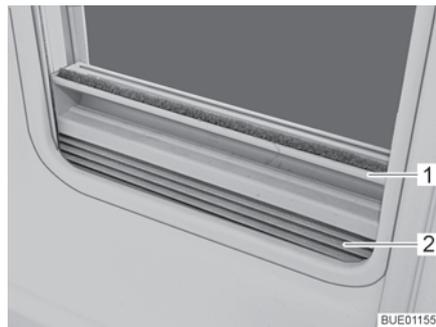

Fig. 64 Roman shade
- Closing:** ■ Grip the Roman shade (Fig. 64,2) in the middle of the holding bar (Fig. 64,1), pull it upwards and then release it at the desired height. The Roman shade will stay at this height.